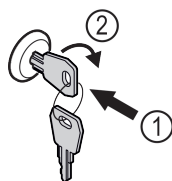

Fig. 90 Example illustration
- Insert key Fig. 90 (1).
- Turn key clockwise by 90° Fig. 90 (2).